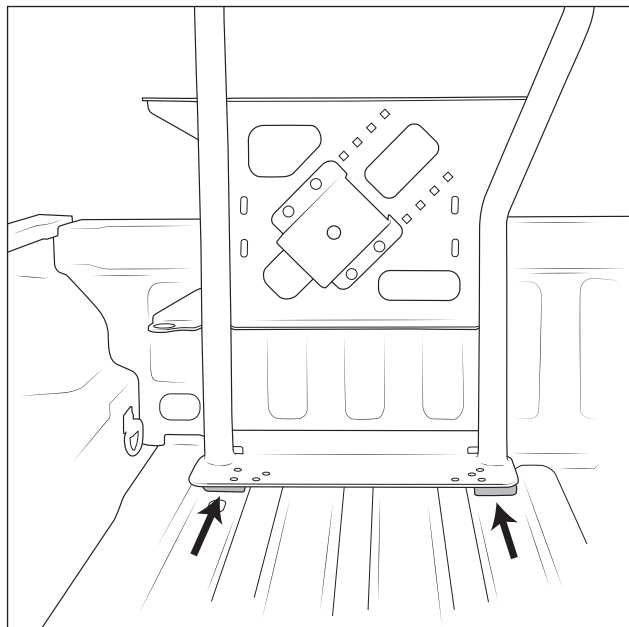

Figure 4
3. Place the two provided Spacers under the Tire Carrier as shown (fig. 4). Adjust the Tire Carrier position side to side to align with spacer holes. Check that the Bulkhead Bracket is aligned with the Tire Carrier and adjust as necessary. NOTE: The Spacers should be pushed all the way forward, this will locate the Tire Carrier position front to back.